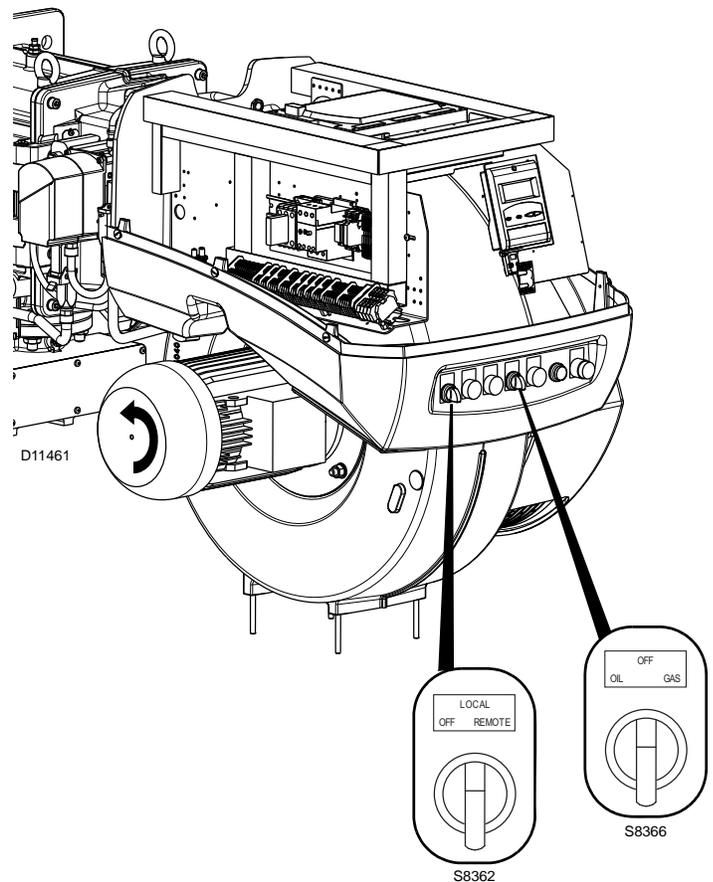

Fig. 44
Turn the switch to position "LOCAL" and turn the switch to position "OIL" for oil operation and "GAS" for gas operation (Fig. 44).
When the burner starts, check the direction of the motor rotation, as indicated in Fig. 44.
- place the switch of Fig. 44 in position "OFF" and wait for the control box to carry out the switch-off phase;